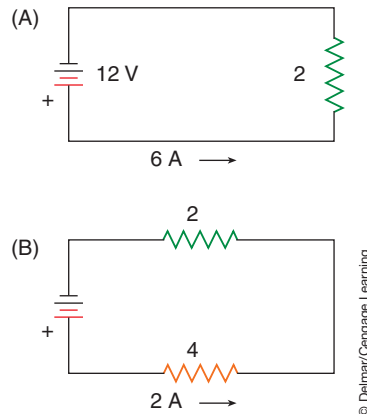

FIGURE 2-21 Circuit resistance controls, or determines, the amount of current flow.
To illustrate the laws of the series circuit, refer to Figure 2-21. The illustration labeled (A) is a simple 12-volt series circuit with a $2\ \Omega$ resistor. Using Ohm's law, it can be determined that the current is 6 amperes ($A = V/R$). Since the $2\ \Omega$ resistor is the only one in the circuit, all 12 volts are dropped across this resistor ($V = A \times R$).
In Figure 2-21(B), an additional $4\ \Omega$ resistor is added in series to the existing $2\ \Omega$ resistor. Battery voltage is still 12 volts. Since this is a series circuit, total resistance is the sum of all of the resistance. In this case, total resistance is $6\ \Omega$ ($4\ \Omega + 2\ \Omega$). Using Ohm's law, total current through this circuit is 2 amperes ($A = V/R = 12/6 = 2$). In a series circuit, current is the same at all points of the circuit. No matter where current was measured in this example, the meter would read 2 amperes. This means that 2 amperes of current is flowing through each of the resistors. By comparing the amperage flow of the two circuits in Figure 2-21, you can see that circuit resistance controls (or determines) the amount of current flow. Understanding this concept is critical to performing diagnostics. Since this is a series circuit, adding resistance will decrease amperage draw.